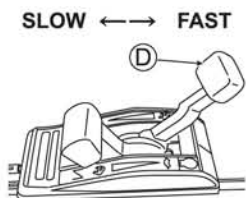

Fig. 20
5. Adjust the mowing speed with Gearshift lever (D). (See Fig. 20)